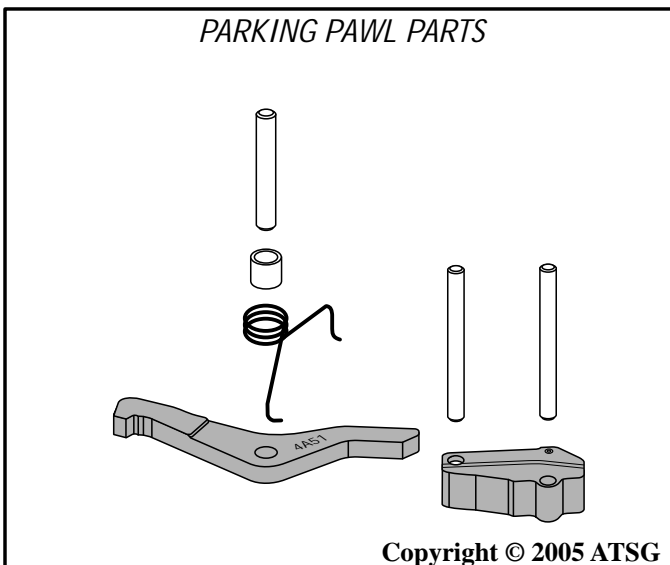

Figure 162
**Note: All parking pawl parts are illustrated in Figure 162.**